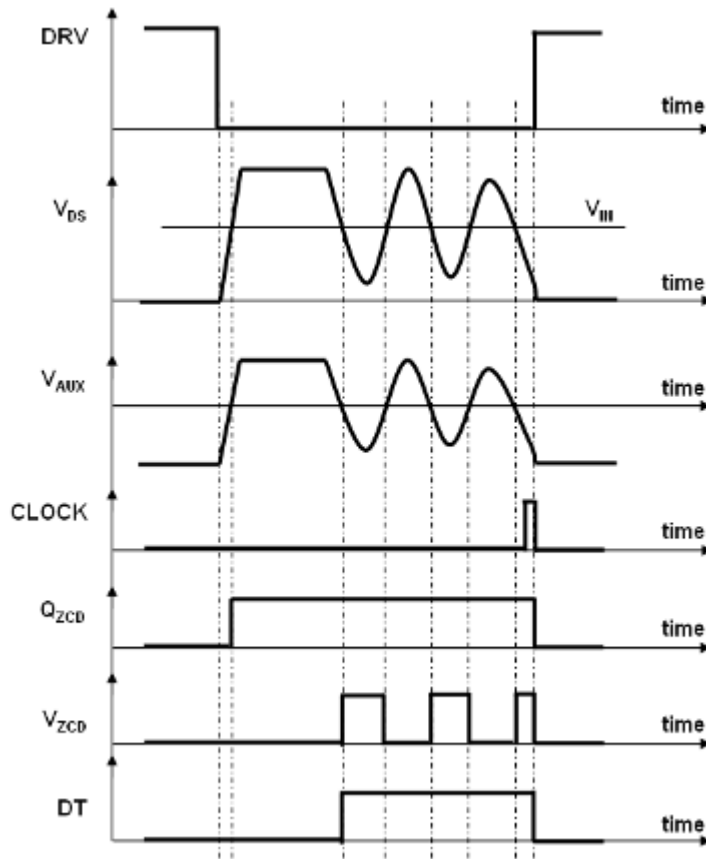

Figure 12. Zero Current Detection Timing Diagram
Practically, an auxiliary winding in flyback configuration is taken off of the boost inductor and gives a scaled down version of the inductor voltage that is usable by the controller (Figure 12). In that way, the ZCD voltage (“ V_{AUX} ”) falls and starts to ring around zero volts when the inductor current drops to zero. The NCP1631 detects this falling edge and allows the next driver on time.
- However, the coil current can possibly be non zero when the clock signal turns high. The circuit would enter Continuous Conduction Mode (CCM) if the MOSFET turned on in that moment. In order to avoid CCM operation, the clock is prevented from setting the PWM latch until the core is reset (that is as low as “V_{ZCD}” of Figure 8 is low). The clock signal remains high during this waiting phase (refer to Figure 12). Hence the next MOSFET conduction time occurs as soon as the coil